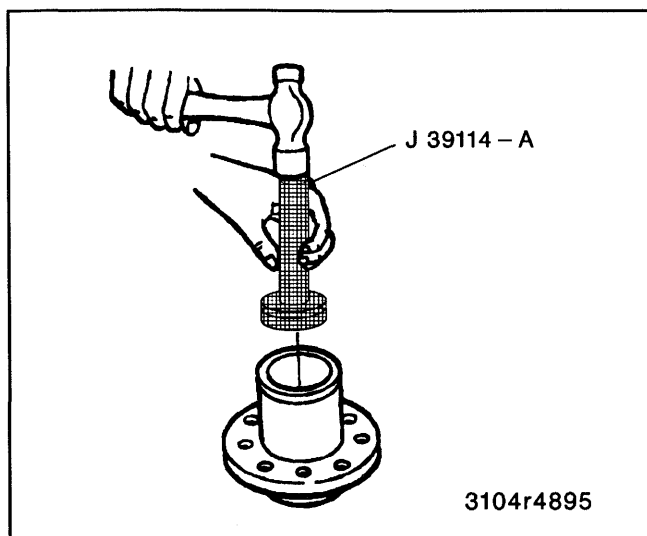

Figure 33—Installing Oil Seal into Hub
- New oil seal using J 39114-A (figure 33).